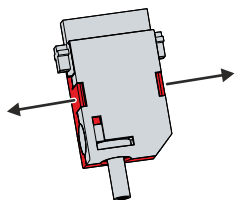

Fig. 17: Disassembly of the strain relief housing
1. Use your fingers to bend the latching lugs on the lower part slightly outwards (see Fig. 17).